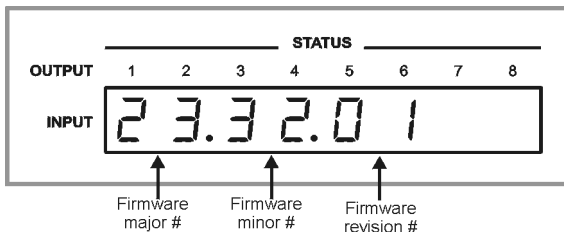

Figure 13: Status Display Immediately After Turn On
1. The firmware version (major, minor, and revision) for the first five seconds (see Figure 13)